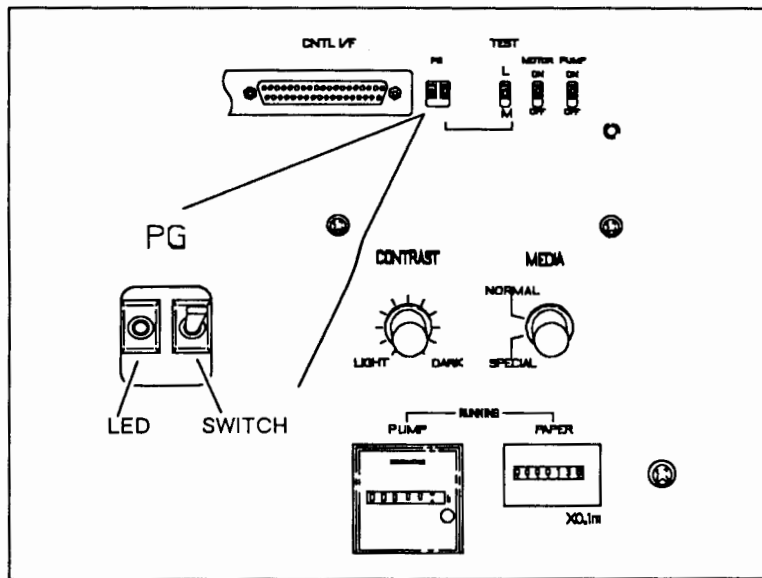

Figure 5-7. Print Engine Test Switches
- a. Turn the plotter OFF (O).
- c. Turn the plotter ON (I).
- e. Press and release the PG switch on the plotter test panel once. See Figure 5-7. The LED beside the switch will light. The test will run continuously until the PG switch is pressed again.